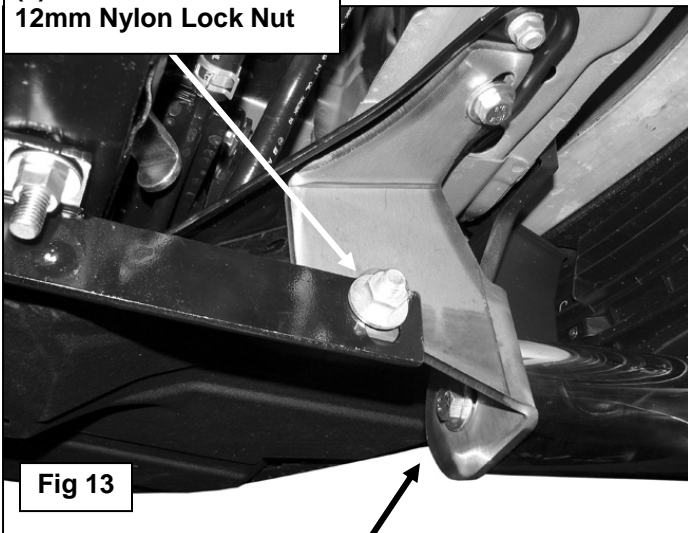

Fig 13
**11.** With assistance, position the Bull Bar up to the Mounting Brackets. Attach the Bull Bar to the Mounting Brackets using the included (2) 12mm x 35mm Hex Bolts, (2) 12mm Lock Washers and (2) 12mm Flat Washers, **(Figure 13)**.